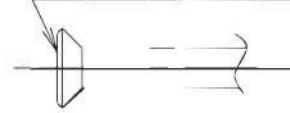

Fig. 7
- When making a flare connection, coat the flared inner surface only with ether oil or ester oil. **(Refer to Fig. 7)**